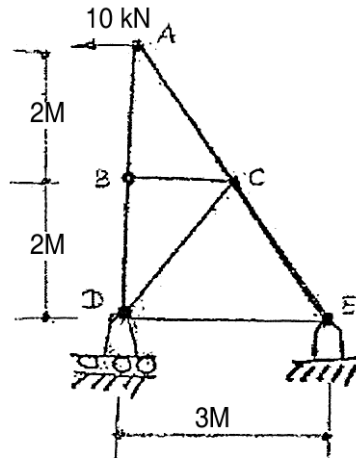

Fig. 1
11. a) Find the horizontal deflection of the joint A of the truss shown in Fig. 1 by Castigliano's first theorem. Assume all members are of same material and same cross section areas.